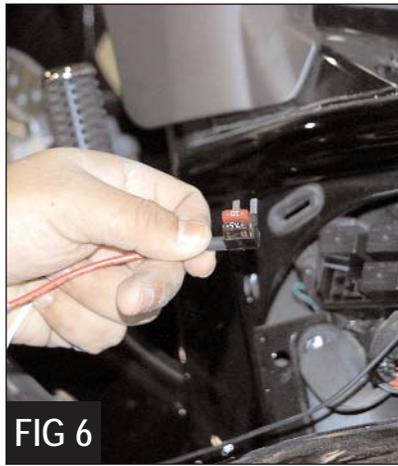
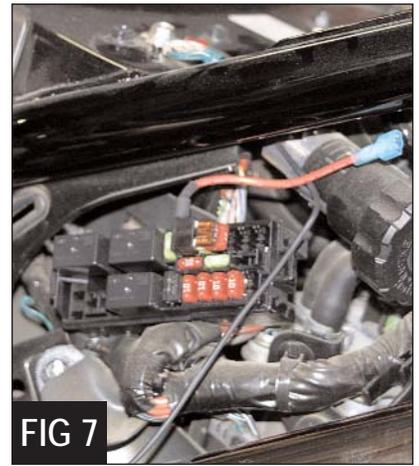

FIG 6
FIG 7
3. Locate the fuse box and remove the 10amp clock fuse position (*Figure 4*), using needle nose pliers (*Figure 5*) and insert the fuse into the supplied adapter at the end of the wiring harness (*Figure 6*), then Insert the adapter into the fuse box into the space previously occupied by the 10 amp clock fuse (*Figure 7*).